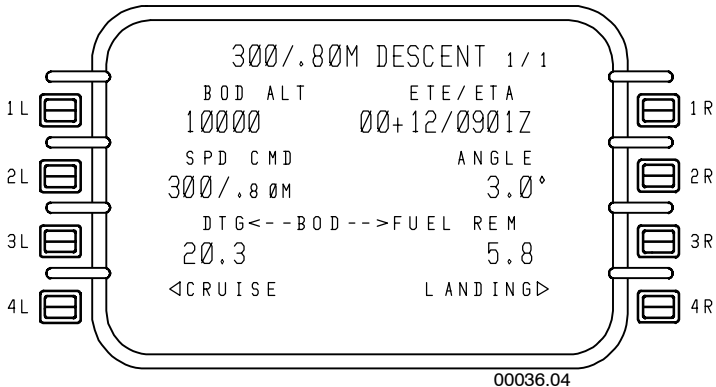

Figure 5-34
- **DESCENT 1/1** – Figure 5-34 has a title line that reflects the selected descent speed schedule.